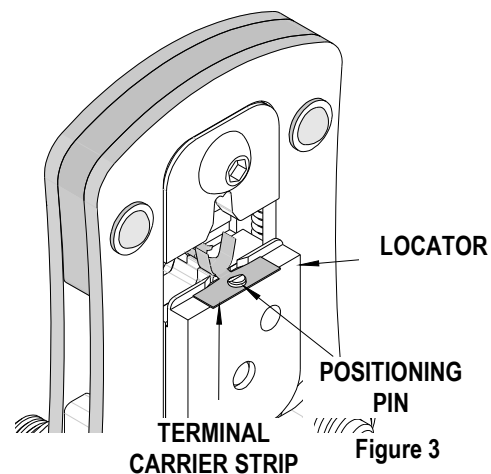

Figure 3
2. Place the properly stripped wire into the open terminal barrel. Push the wire into the tool until the end of the wire contacts the wire stop, making sure that all wire strands are inside of the conductor barrel. See Figures 3 and 4.